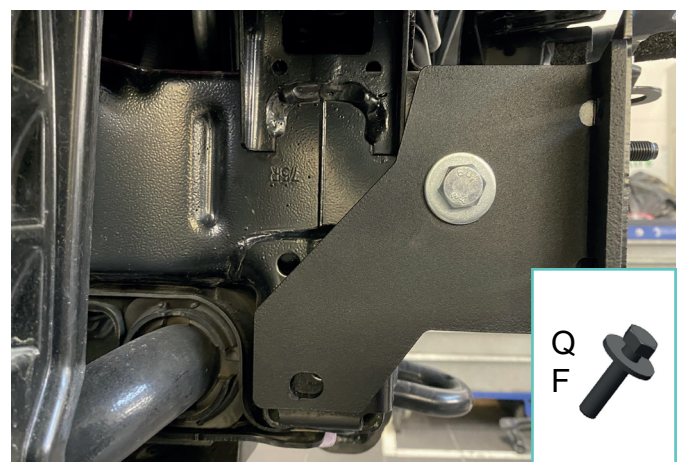

Fig.18
18. Fix support brackets (item 14, 15) on insert nut M10 using bolts M10x30 (item F) and washers 10 (item Q) (fig.18).